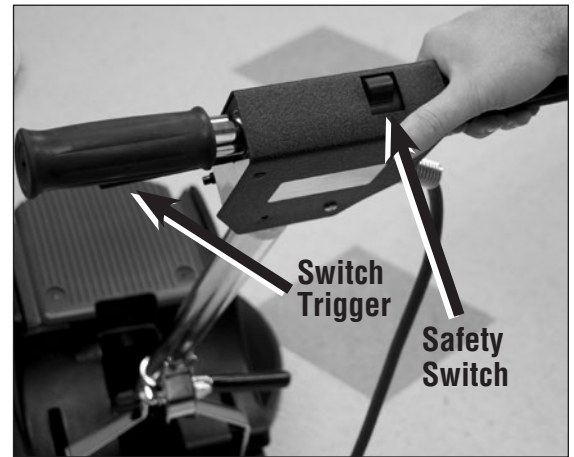

Fig 4
- Plug the machine in as directed and lower the handle to the desired operating height and lock in place using the cam lever handle. Push the safety switch forward (**Fig 4**) and squeeze the switch triggers beneath the handle grips. This activates the motor and starts the block, brush or attachment in operation. Each time you release the triggers the safety switch will reset. You will need to follow the direction above to restart the machine. **CAUTION:** *When leaving the machine unattended, disconnect the wall plug and return the handle to the "locked" upright position to prevent accidental starting.*